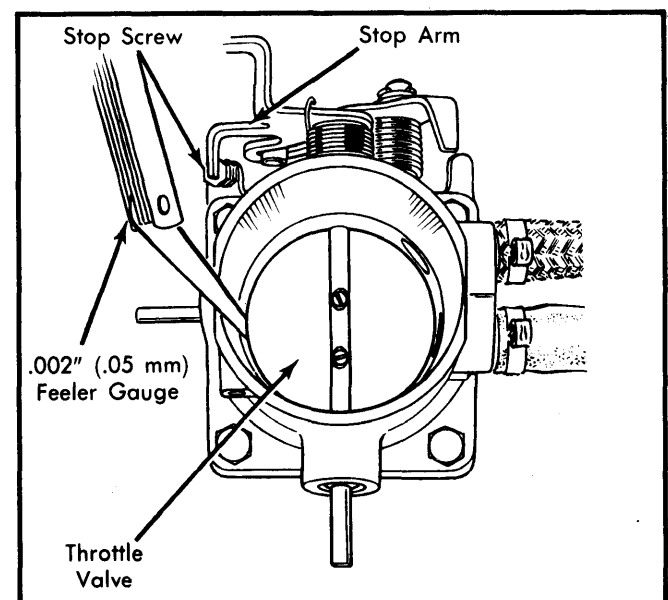

Fig. 9 Adjusting Throttle Valve Clearance (Jaguar Models Only)
2) Insert .002" (.05 mm) feeler gauge between throttle valve and throttle housing bore. See Fig. 9. With feeler gauge in position, adjust stop screw so it just touches stop arm. Tighten locknut. Press stop arm against stop screw and remove feeler gauge.